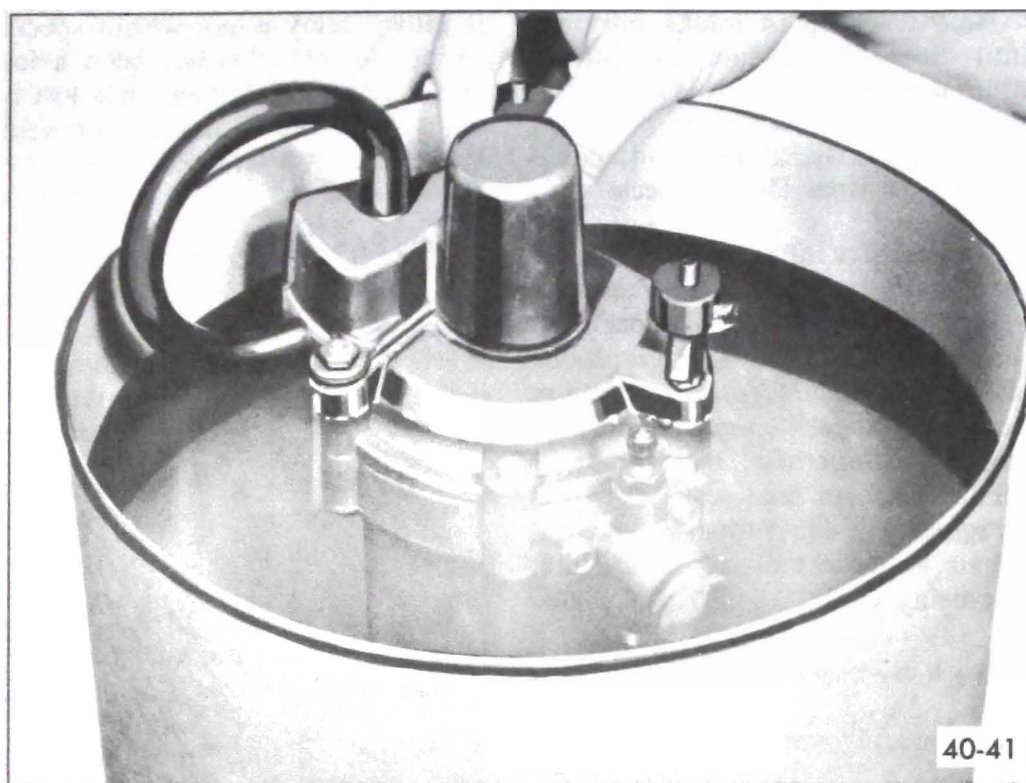

Figure 40-44 · Checking Compressor, Reservoir Tank and Regulator for Leaks
3. Route an 8" piece of rubber hose between vacuum and vent ports. See Figure 40-44.